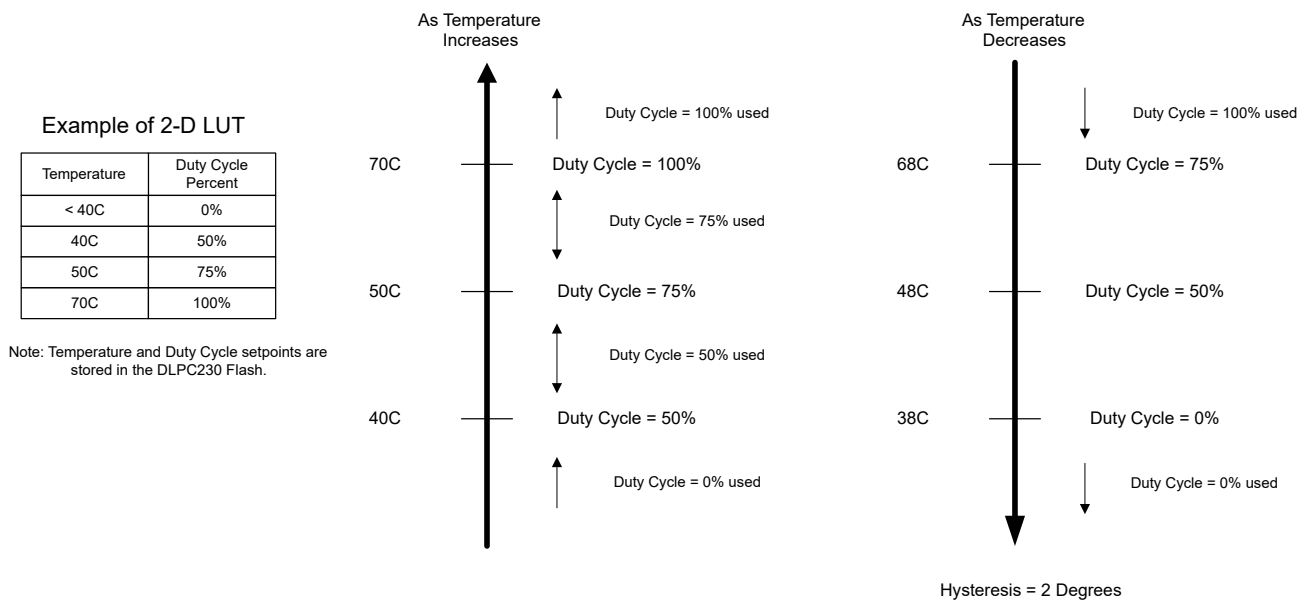

Figure 5-27. PWM Duty Cycle Temperature Management Example
Some applications have side effects at higher temperatures and require active cooling solutions such as fans. For systems that use a variable-speed fan controlled by a PWM signal, the DLPC230-Q1 offers a PWM Temperature Management Function. It is intended to self-monitor a system temperature level and automatically update the fan speed via PWM duty cycle. This implementation avoids over-design and reduces noise level of a fixed-speed fan. This function also supports hysteresis to avoid switching back and forth between temperature regions and duty cycle levels. This hysteresis is applied only as the temperature decreases. A 2-Dimensional LUT stored inside DLPC230 flash dictates transition temperatures and PWM duty cycle for this automated function. These parameters, which include enable/disable, temperature thresholds, PWM Duty Cycle percent, PWM GPIO pin, and hysteresis, must be specified in the Automotive DLP Composer(TM) tool. Figure 5-27 shows an example use case. See PWM temperature management commands 35h-39h, starting with Section 8.2.31.